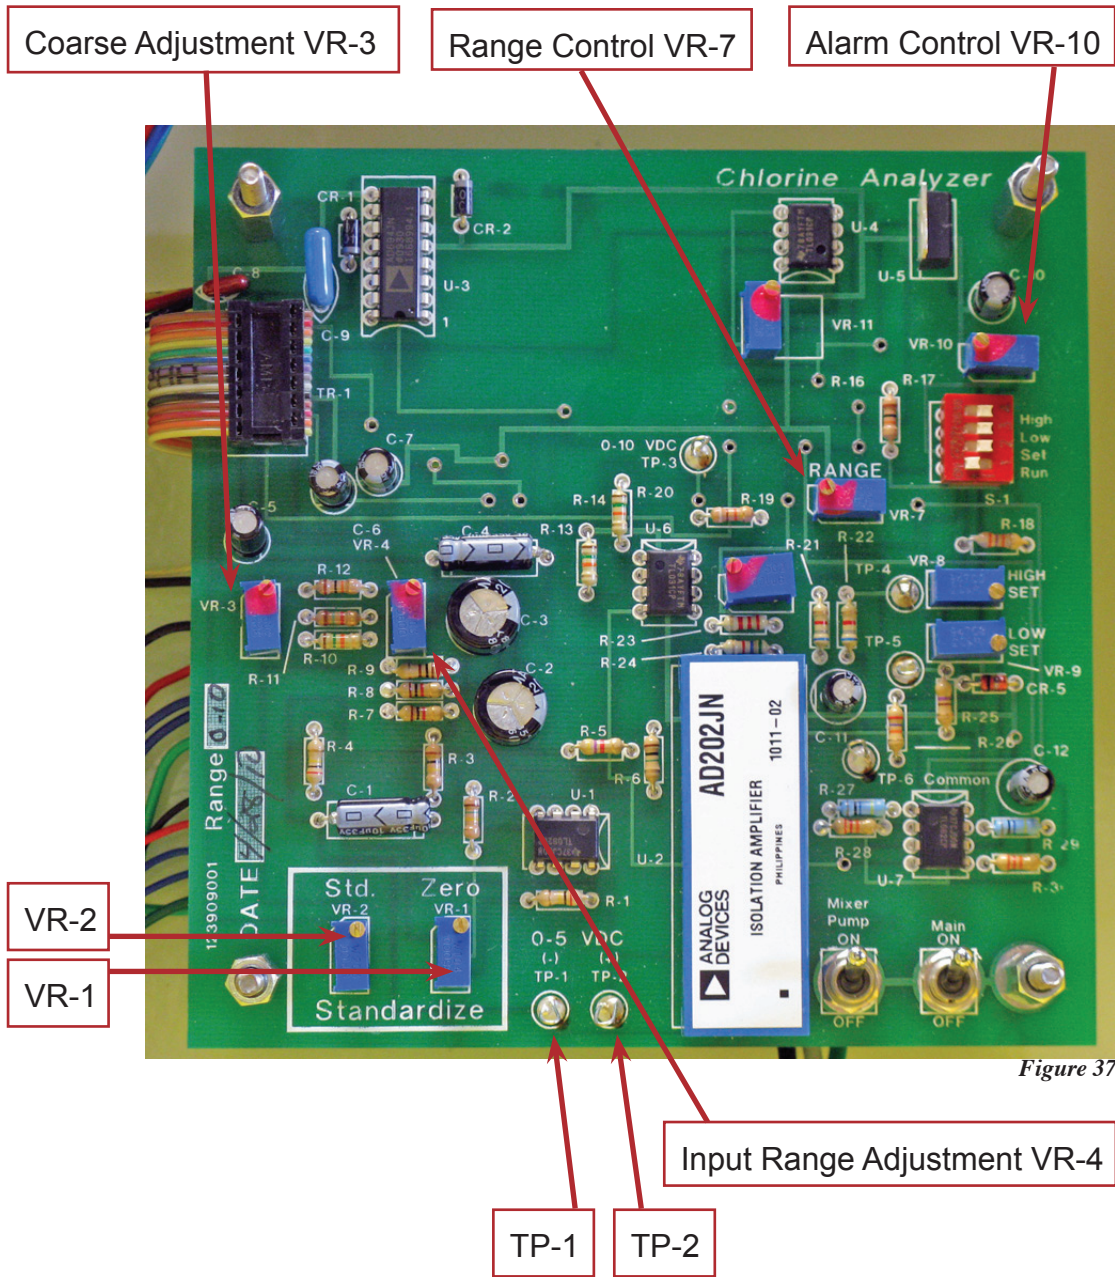

Figure 37
4. Locate the ZERO control (VR-1; see **Figure 37**, page 29). Adjust the ZERO control until the FX-1000p display reads 0.00 ppm (+/- 0.01 ppm).
3. See **Figure 37** (page 29) to locate the Std. control (VR-2), and adjust it until the FX-1000p display reads the known, ppm value. **If the Std. control is out of adjustment refer to “Coarse Adjustment” on page 27.**
Follow the directions for setting ZERO Control on page 26, but use the following adjustment for span (Std. control), instead of the normal procedure. See **Figure 37** (page 29) for trimmer locations.
See **Figure 37** (page 29) for trimmer locations.